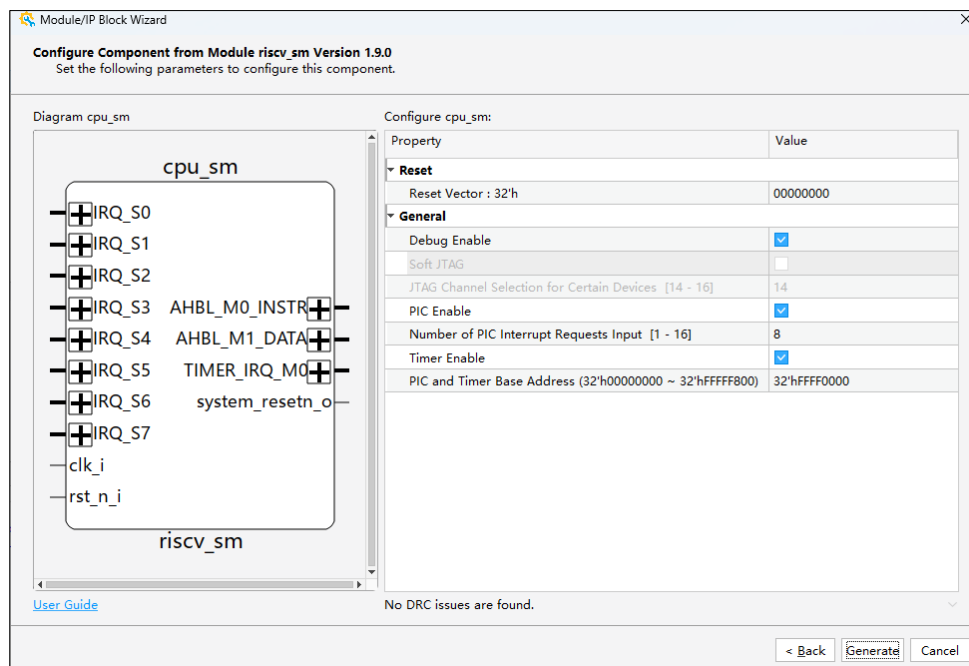

Figure 3.2. Configuring Parameters
3. Configure the parameters as needed. Click **Generate** (Figure 3.2).
1. In Lattice Propel Builder software, enable **Soft JTAG** in the Module/IP Block Wizard GUI (Figure 3.2) when generating the IP.